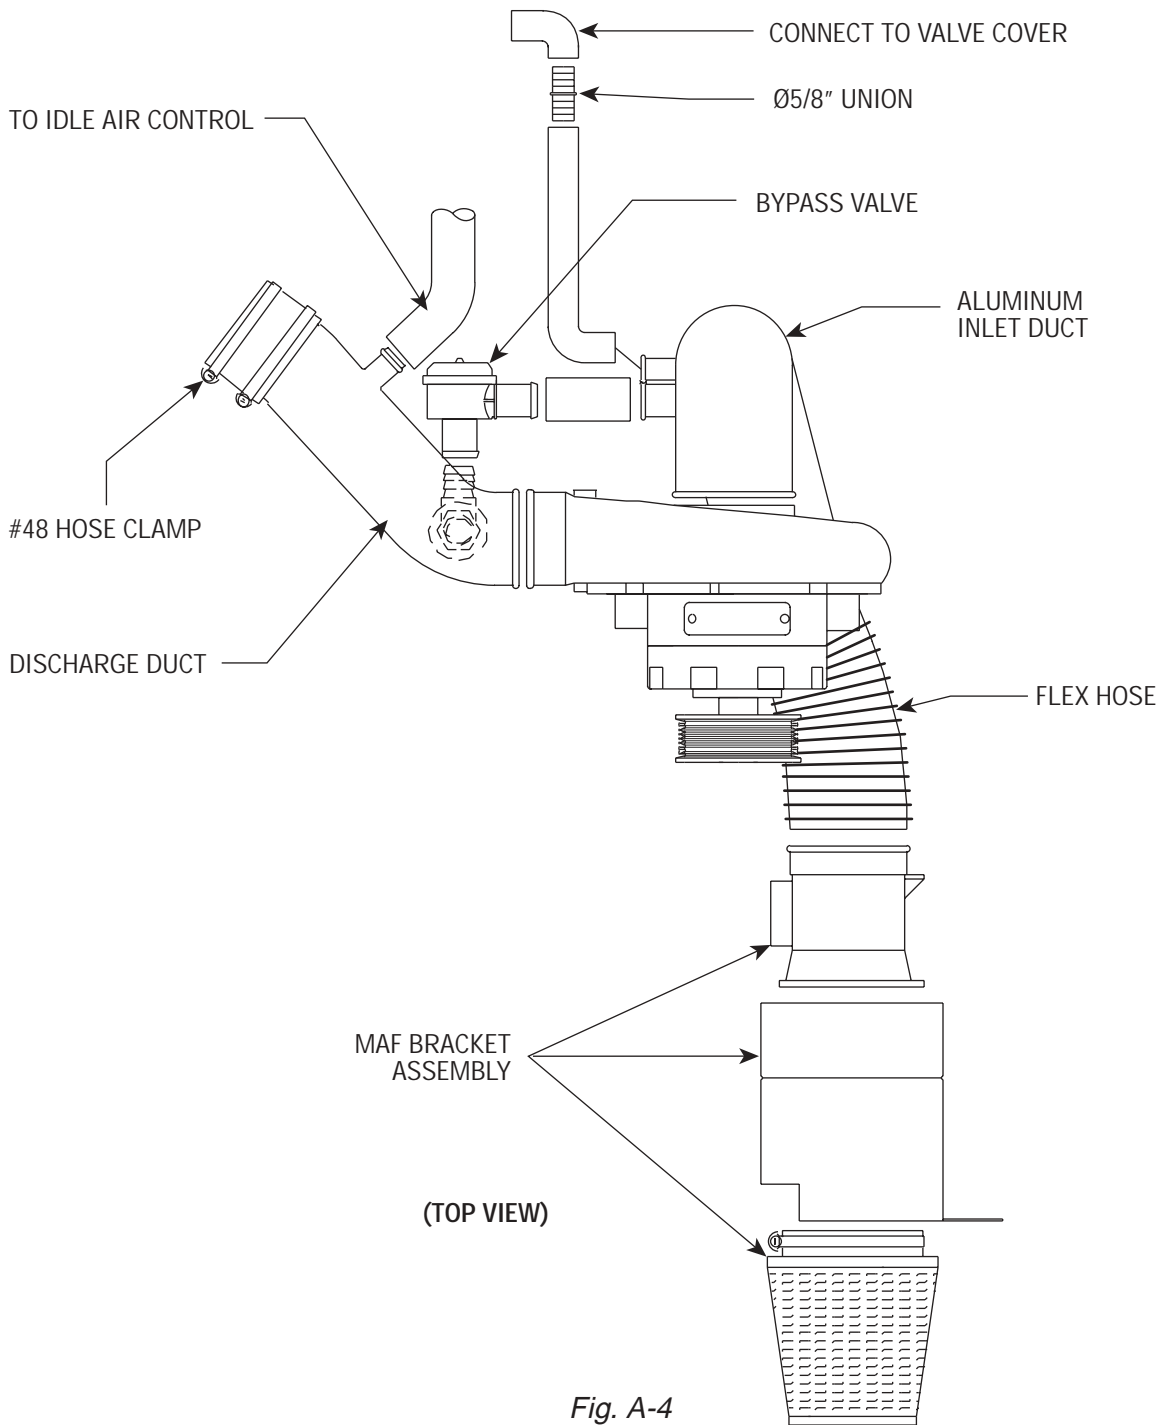

Fig. A-4
*NOTE: Refer to Figs. A-4, A-5 and A-7 in the Appendix.*